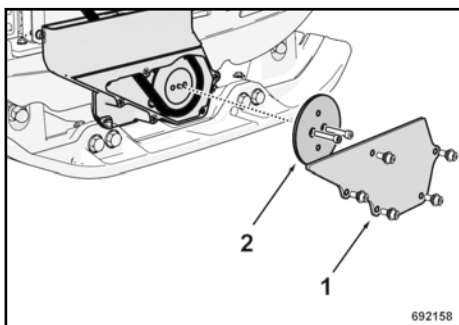

Fig. 52
Remove the safety cover (1) ↪ Fig. 52.